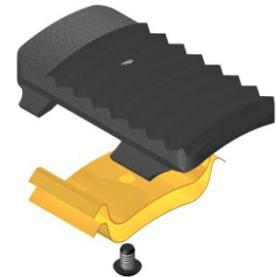

Fig. 3
**NOTE5:** Install two (2 ea) springs per slip (Fig. 3).